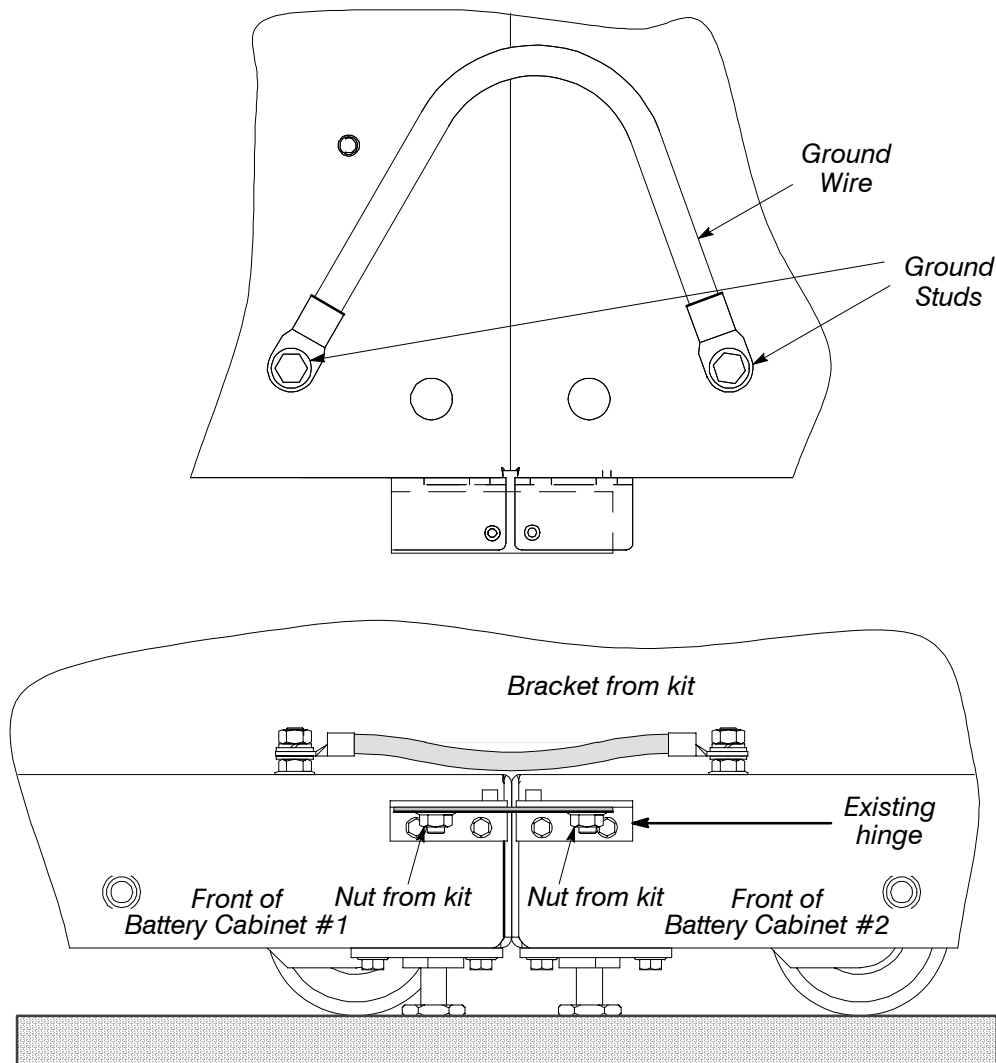

Figure 17. Connecting Two Series 1085 Bases
- 3.** Locate the large flat bracket from the field kit. Place the bracket over the stud on the bottom side of battery cabinet #1 lower hinge, and over the stud on the bottom side of battery cabinet #1 lower hinge. Attach the bracket with two M8 self-locking nuts from the field kit (see Figure 17).